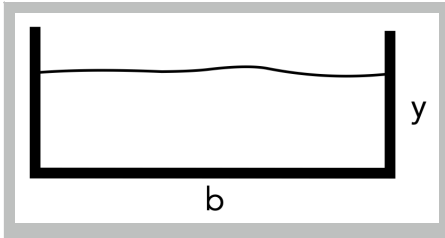

Figure 2. Simple Rectangular Channel.
The Manning equation is an empirical relationship used by civil engineers to estimate the flow characteristics inside pipes and channels. Figure 2 shows a simple rectangular channel.
- a) Create a Matlab script to estimate the values of  $A$ ,  $P$ , and  $R$  given the dimensions of  $b$  and  $y$  (in Figure 2). Test the code with values of  $b=30$  feet and  $y=6$  feet.